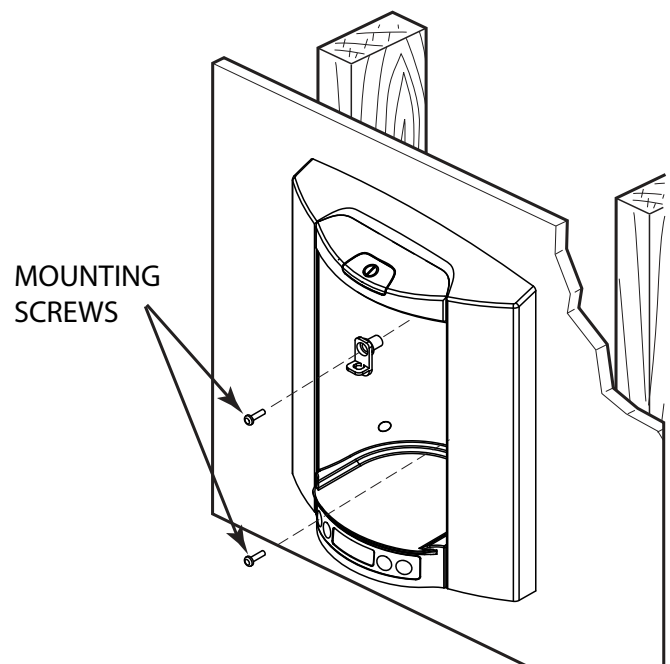

**Figure 8**
8. The male quick connector has a built in valve so water can be turned on prior to connection to coffee maker. Place unit on a towel or cardboard to protect counter surface. Place **BREW EXPRESS** directly in front of **rough-in box**. Connect brewer to water supply using quick connectors. (See **Quick Connect Detail**). Snap connectors together firmly. Turn on water, **check for leaks** prior to final installation of **BREW EXPRESS**. If leaking, turn off water, tighten connections or reinstall **quick connector**. Turn water on and check again. See **Figure 8**.